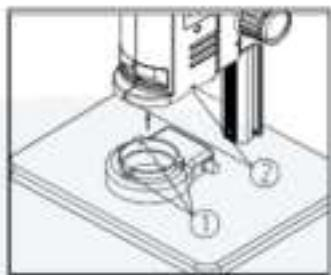

Fig.2
Move the LED right light close to the microscope body according to the arrowhead direction, align the three screw holes (1) with the thread groove (2), and lock the screw with a M4 inner hexagon spanner (side length 2mm). (See Fig. 2)